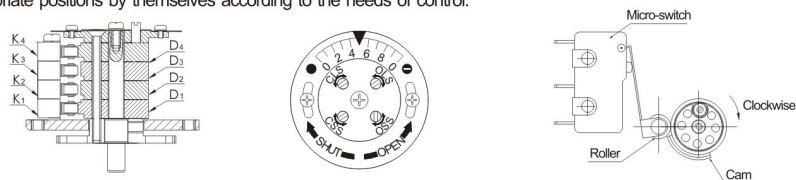
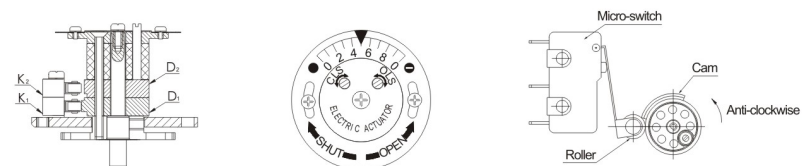

Fig. 8
Fig. 5
- With the correct adjustment mentioned above, if the positions of the indication pointer and the valve are found not in the positions they should be, (mostly due to position deviation of valve shaft and coupling during processing) please loose the screws at the two ends of scale plate shown in Fig. 5 and Fig. 8, turn the scale plate to the corrected indication positions and fix the screws. (Note: not to loose the pointer)
3、Adjustment of Travel Switch (Electric Protection), refer to Fig. 5
5、Adjustment of intermediate position switch (Fig. 8)